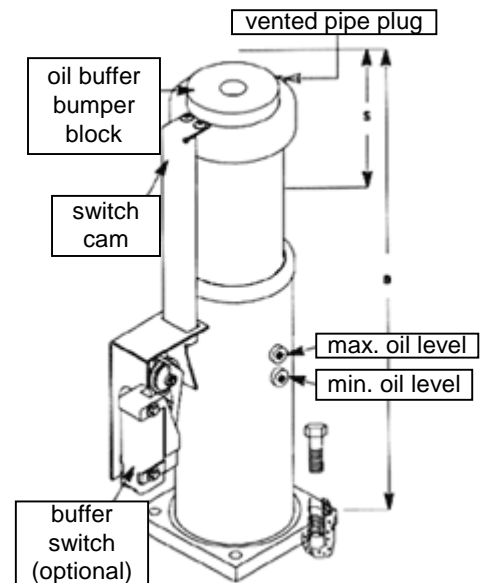

Figure 10-7 Oil Buffer
A. Oil Buffer (figure 10-7), Clean & Inspect